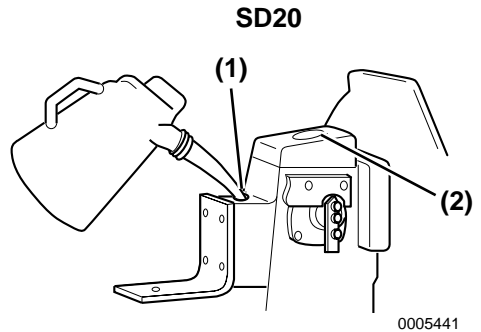

Figure 3
2. Check the amount of lubricating oil by inserting the dipstick as far as possible. Do not screw the dipstick in (**Figure 3, (1)**). The oil level should reach the upper mark on the dipstick (**Figure 3, (2)**).